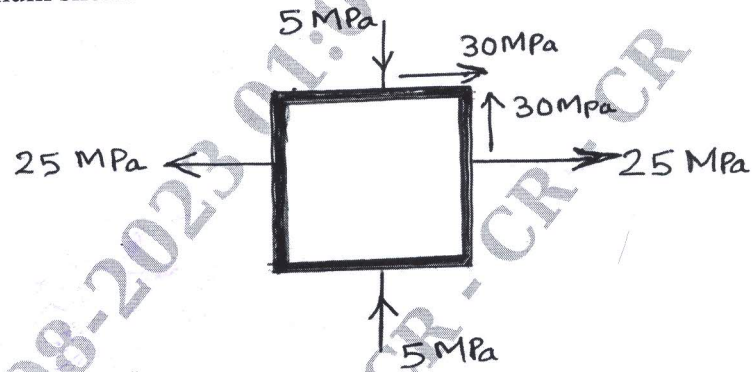

Fig.Q.3(a)
- 3 a. For the 2-D stress system in the Fig.Q.3(a) find the following: